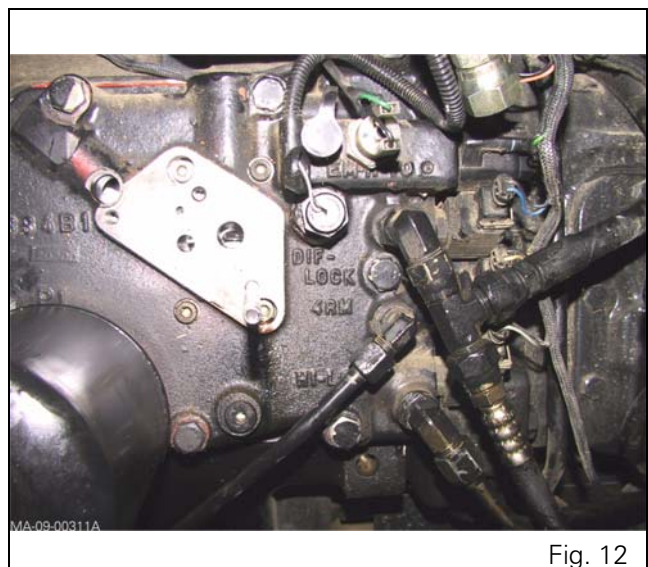

Fig. 12
10. Remove the block (17) (Fig. 12).